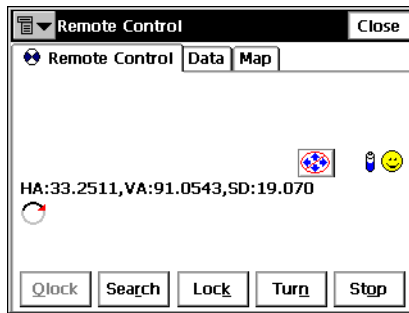

Figure 6-32. Remote Control
2. Using the *Remote Control* screen, you can make the instrument search for the target (with the **Search** button), lock on the target (with the **Lock** button), stop rotating (with the **Stop** button) and rotate to a pre-defined angle (with the **Turn** button) (Figure 6-32).